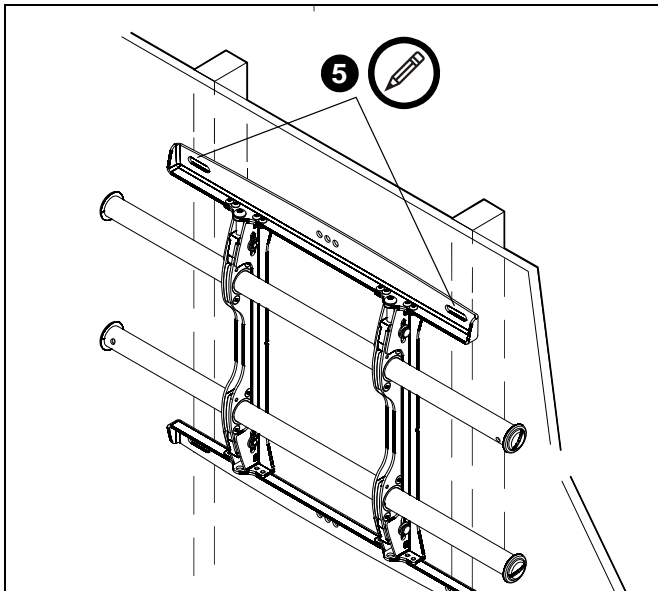

Figure 6
5. Using a level, mark the wall on each stud to attach the mount through the upper mounting slots. (See Figure 6)